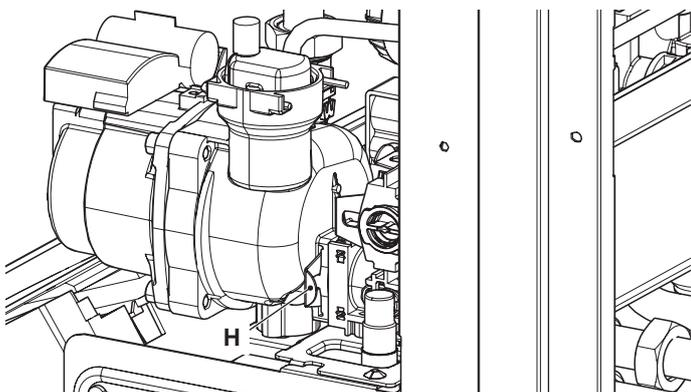

Figure 7.5
- 6 Remove the locking plate H (Figure 7.5).